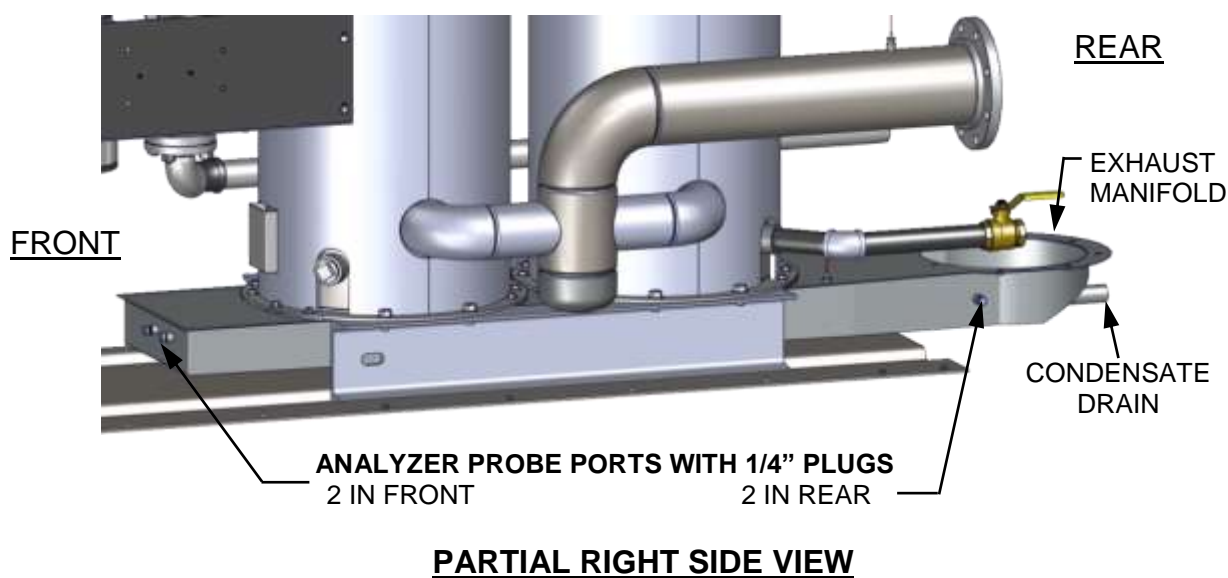

Figure 4-2: Analyzer Probe Hole Locations
The unit contains a 1/4" NPT port on the side of the exhaust manifold as shown in Figure 4-2. Prepare the port for the combustion calibration as shown below.
1. Refer to Figure 4-2 and remove one of the four 1/4" NPT plugs (P/N 9-22) from the desired location on the exhaust manifold. There are four 1/4" NPT ports, two in the front of the exhaust manifold and two in the rear, on the left and right sides.
18. With the valve position at 100%, insert the combustion analyzer probe into the exhaust manifold probe opening (see Figure 4-2) and allow enough time for the combustion analyzer reading to stabilize.